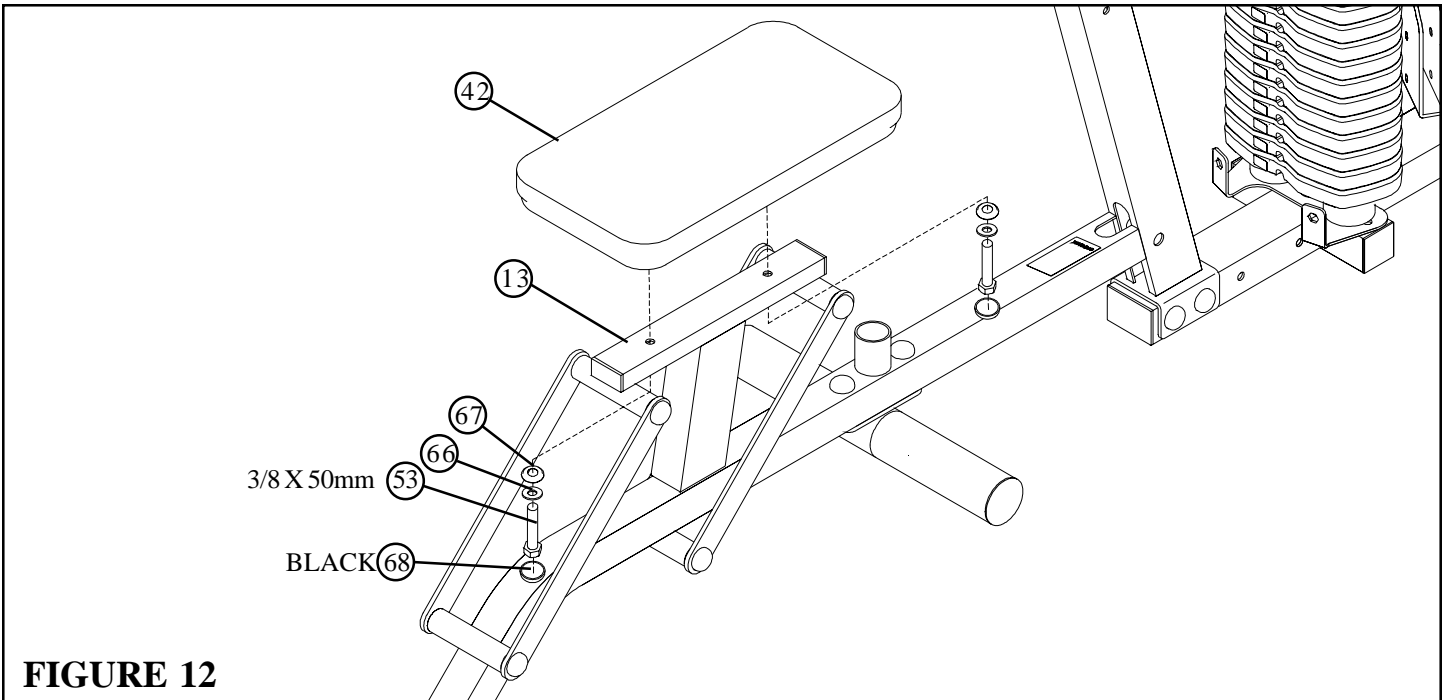

FIGURE 12
- **SECURELY** assemble LAT SEAT PAD (42) to the LAT/LOW SEAT (13) using two BLACK RH CAPS (68), two 3/8 X 50mm BOLTS (53), two 3/8 SAE WASHERS (66) and two 3/8 RH WASHERS (67) as shown in FIGURE 12.